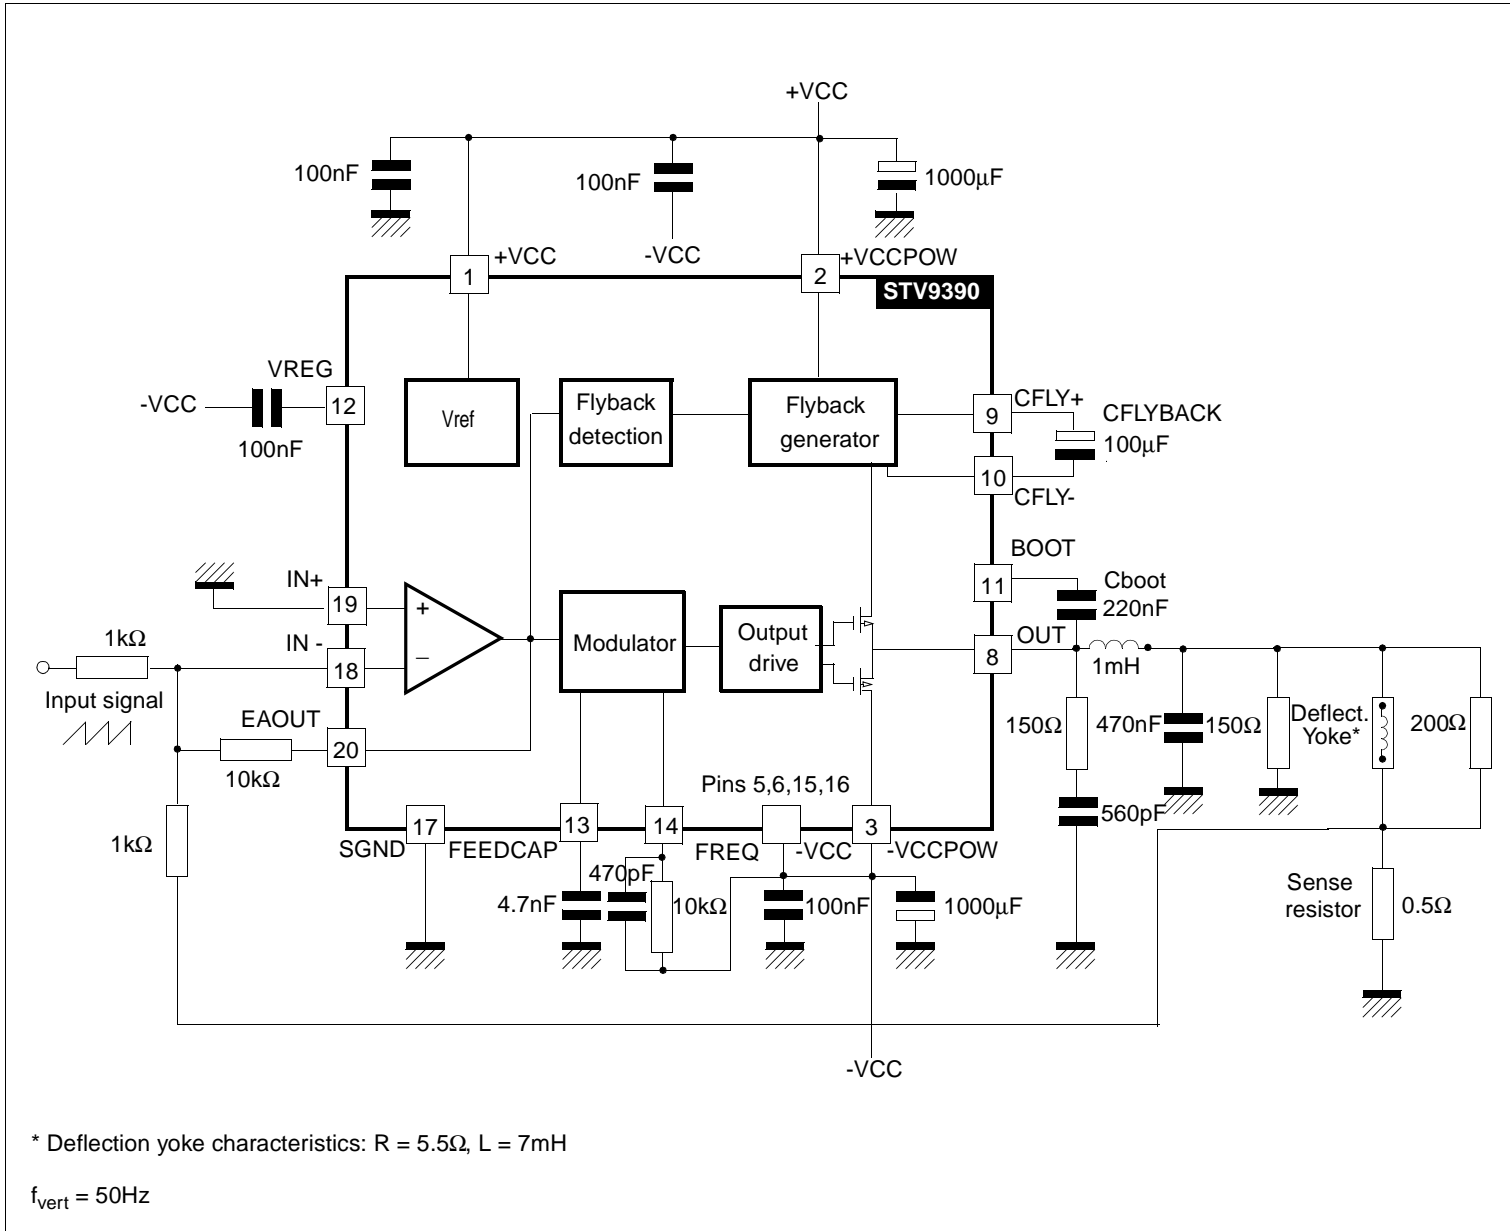

Figure 1. Test and Application Circuit
## 5 ELECTRICAL CHARACTERISTICS (refer to Figure 1 on page 3)
*Note:* 5 Power dissipated in the circuit in the case of the application from Figure 1 and the current in the deflection yoke adjusted to 2.2App. The corresponding power dissipated in the vertical deflection yoke is 2.25W.